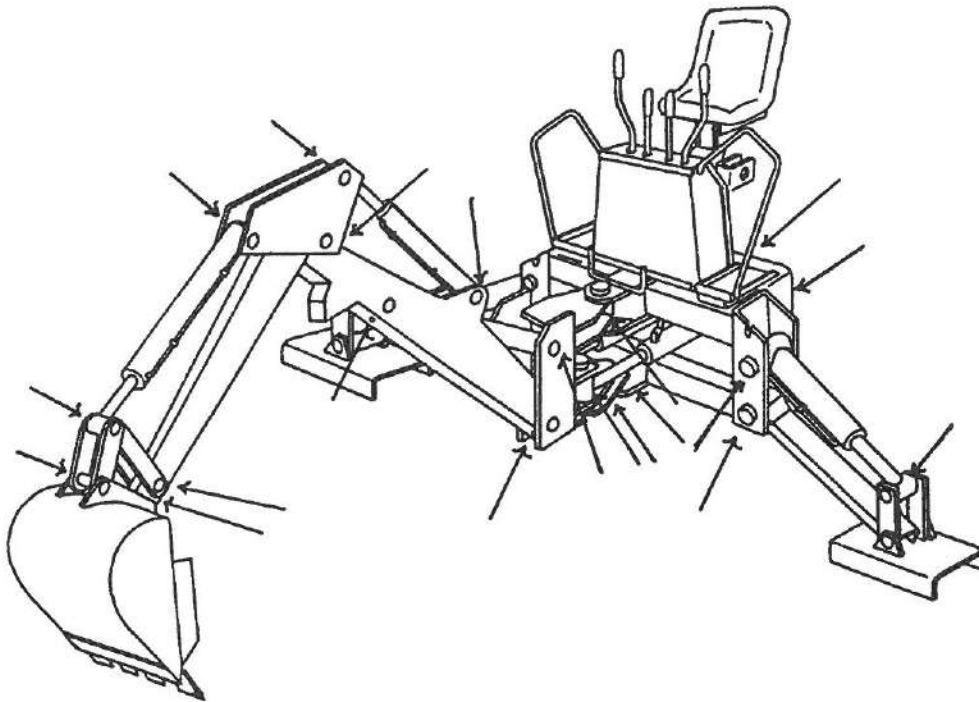

Figure 15
7. Lubricate all zerks as indicated by the arrows on the drawing in Figure 15—LUBRICATION POINTS.